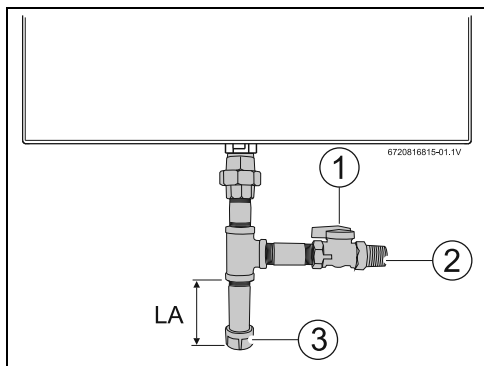

Fig. 25 Gas connection
- ▶ National Fuel Gas Code requires that a sediment trap (drip leg) be installed on gas appliances not so equipped. The drip leg must be accessible and not subject to freezing conditions. Install in accordance with the recommendations of the serving gas supplier, see fig. 25.